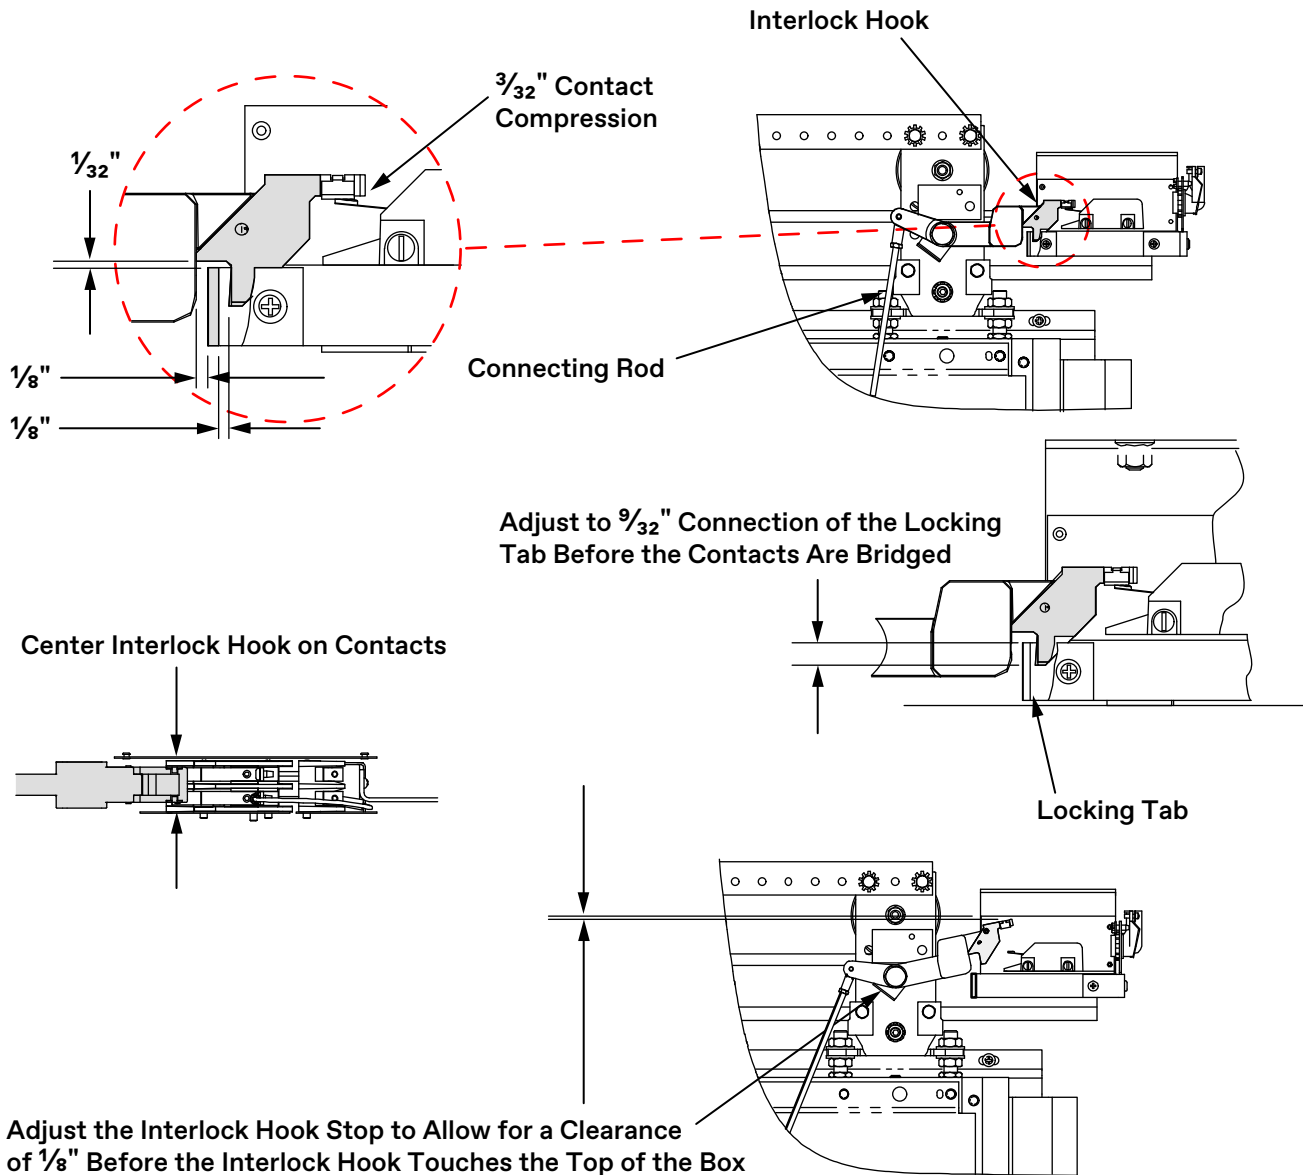

Figure 32 - Interlock Adjustment
1. Install the interlock contact box. Evenly align the cover screws with the face of the header. See Figure 32 on page 47.